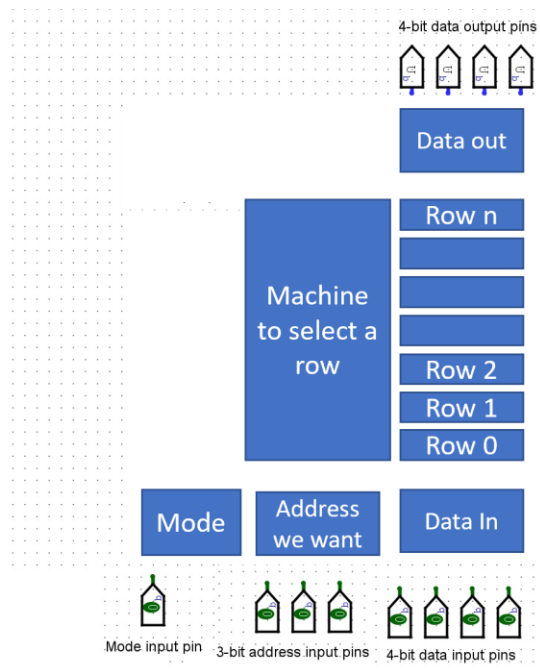

Figure 1: High-level view of RAM
- Task: Build the circuit (blue boxes) of figure 1.
NOTE: Your final circuit does not need to look exactly like figure 1. However, the input and output pins must look like figure 1.